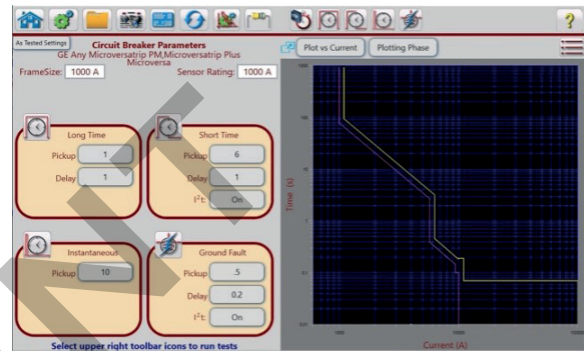

Figure 7: GE microstrip curves
**Automatic control** - In order to simplify testing, the SPI software is pre-loaded with a library of manufacturers circuit breaker time-curves (Figure 7). You can test all breaker parameters including: